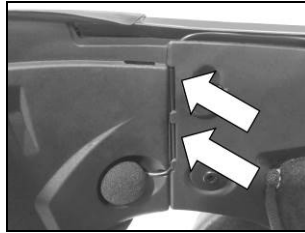

Fig. 17
- Position the microphone wire in the vertical groove (Fig. 17) and afterwards behind the cheek pad lining. If necessary, lift up the groove tabs and the cheek pad lining using a flat head tool (supplied as standard equipment).